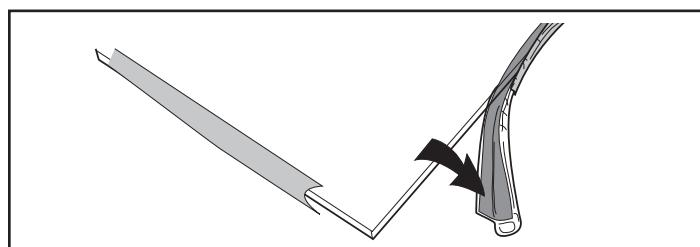

Figure 60 - Wrap the gasket material around the outside edge of the glass.
3. Starting on a long edge, remove about 6" of the protective paper strip and apply the flat adhesive face of the gasket around the outside-facing edge of the panel. Continue around the panel, applying a bout 6" at a time and being careful to not stretch the material. Do not overlap the gasket ends. (Figure 60)
To ensure that the stove is operating properly, check the flames periodically to confirms they match Figure 60. The flames will be blue during the first 15-20 minutes of operation, and will gradually turn to yellow after that.